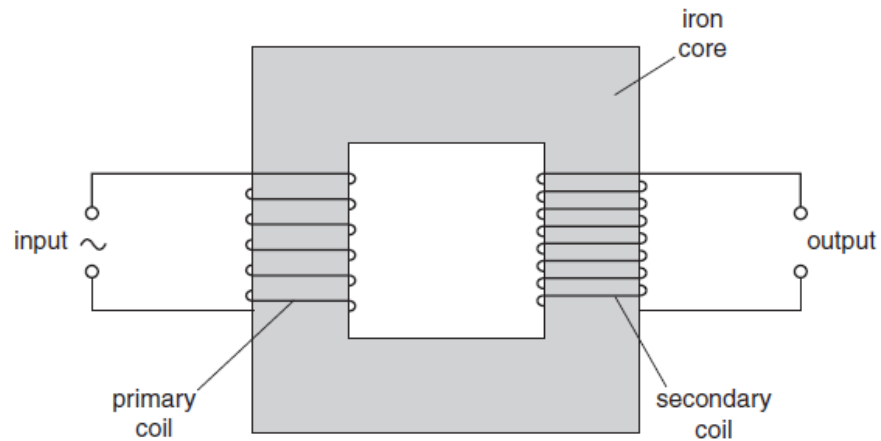

Fig. 5.1
- 6 (a) A simple iron-cored transformer is illustrated in Fig. 5.1.